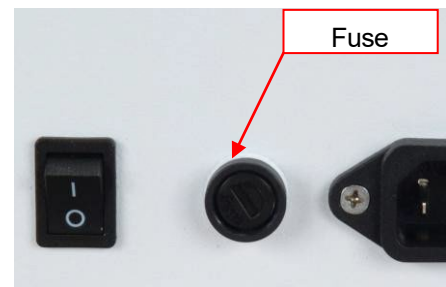

Fig.3
- 5) Put the fuse holder back, press and turn it clock wise. See **Fig. 3**.